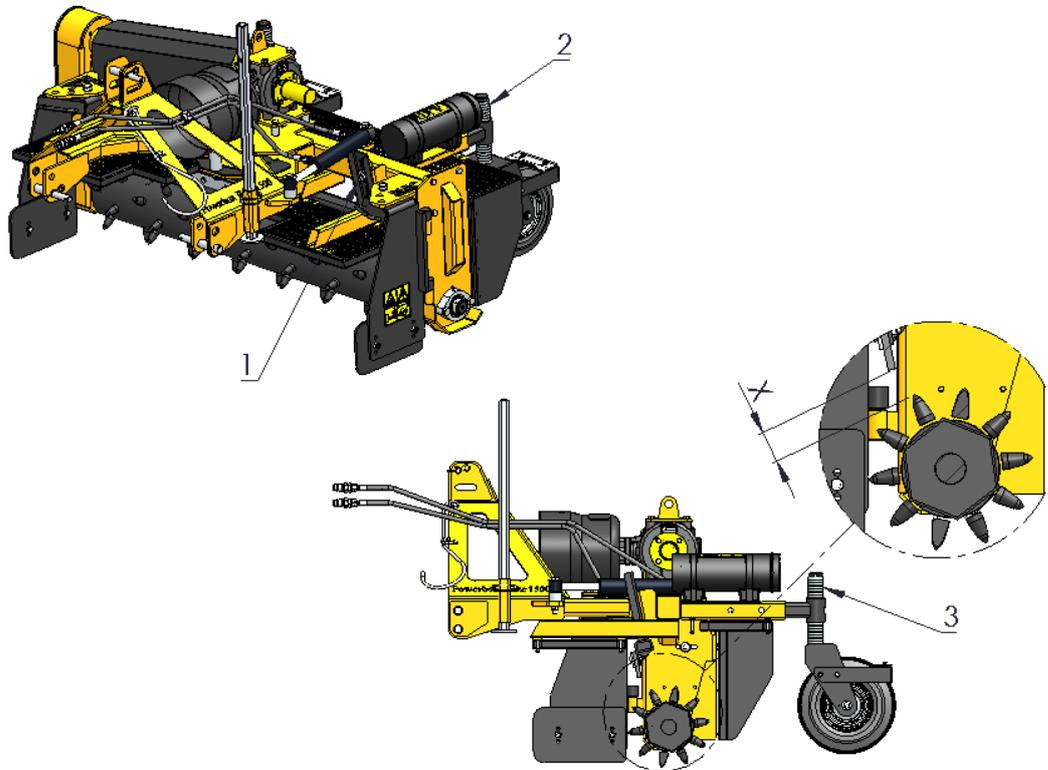

Figure 3
1. Raise the guide plate by loosen the nuts **(1)** and tighten the nuts. Make sure that there is minimum 50mm distance between the rotor and the rubber plate **(X)** (Figure 3).